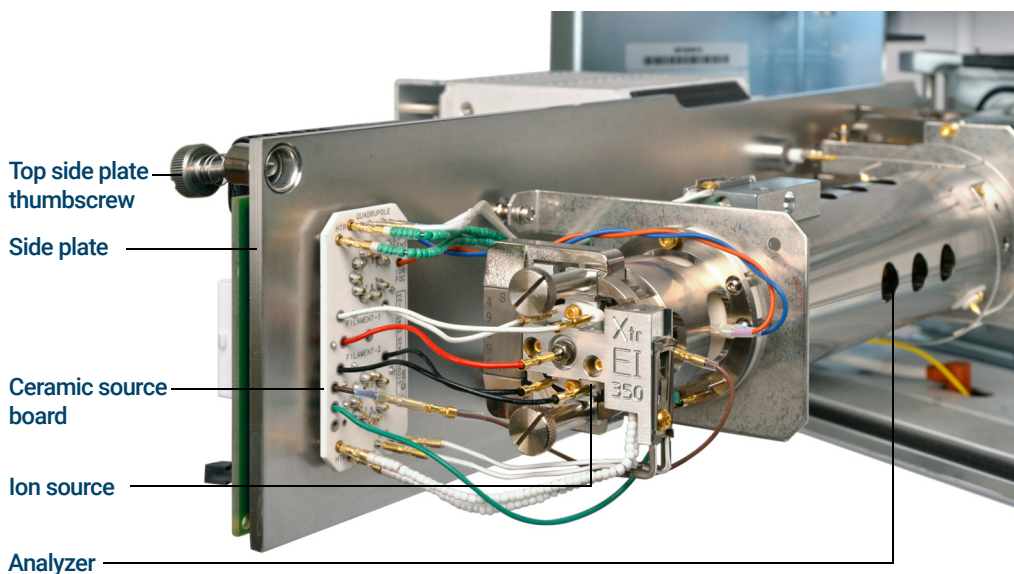

Figure 54. The analyzer chamber for an Inert+ model MSD
- 3 Loosen the analyzer side plate thumbscrews if they are fastened. (See Figure 54 on page 177.)